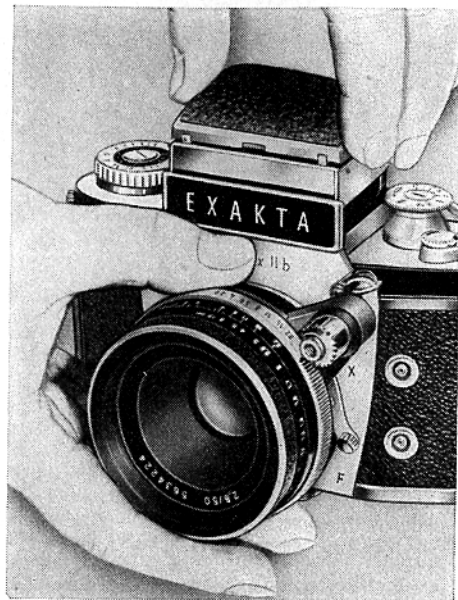

Fig. 17
The EXAKTA Varex is a multiple-system camera: the Finder Hood can be detached, allowing the Penta Prism (45) to be fitted when required — as explained above. There is also the Lens Magnifier for close-up photography and photomicrography and the "Stereflex" Stereo View Finder for 3-dimensional photography; see pages 33 and 35. When exchanging viewfinder units, the Finder Hood (13) must first be closed. Lift off the Finder Hood by pulling it smoothly upwards (Fig. 17). When re-inserting the Finder Hood, it must be introduced so that it is exactly vertical and then pushed down until it locks; never employ force.